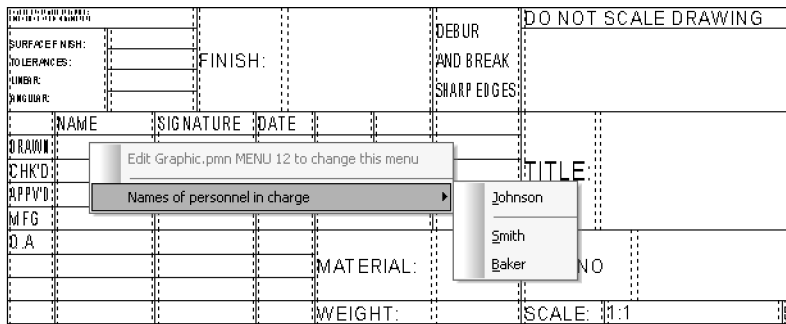

Fig. 12.2. User menu for filling the Drawing Title Block
- ▼ filling the Document Title Block (Fig. 12.2).